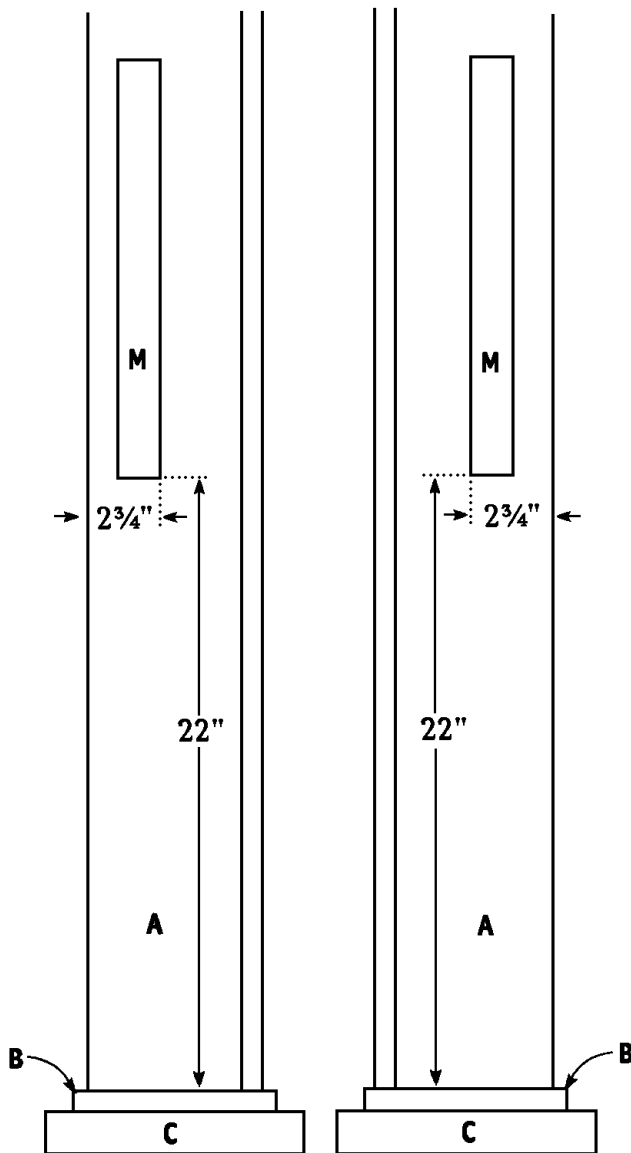

Figure 6
- Cut four Supports (M) from 2 x 2 pine, each measuring 15 inches.
- Attach two Supports (M) 22 inches above the bottom of two of the assembled columns into Side (A) as shown in *Figure 6*. Apply glue to the meeting surfaces and screw through the Support (M) into the Side (A) using four 2-1/2" wood screws on each joint. (**Note:** these supports attached to the columns will be used to support the headboard.)